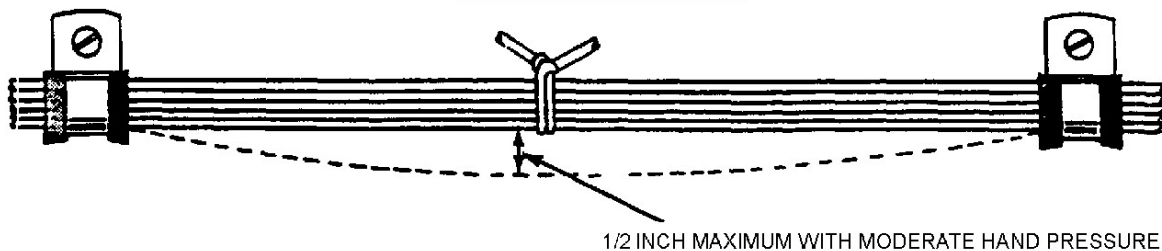

Figure 39. Slack Between Supports
55. Do not install single wires or wire bundles with excessive slack. Slack between support points such as cable clamps should normally not exceed 1/2-inch. (Figure 39). This is the maximum that it should be possible to deflect the wire with moderate hand force. This may be exceeded if the wire bundle is thin and the clamps are far apart, but the slack must never be so great that the wire bundle can touch any surface against which it may abrade. Between the last support point and the connectors, sufficient slack should be provided to preclude any wire tension at the wire termination points. Where appropriate, and especially for wires and/or wire bundles that slope downward as they lead into a backshell, connector or termination, ensure that you include a drip loop (Figure 13) or a drip depression to allow fluids from condensation and other sources to drip off the wire (bundles) prior to entering a backshell, connector or terminal block. Allow a sufficient amount of slack near each end for any or all of the following: